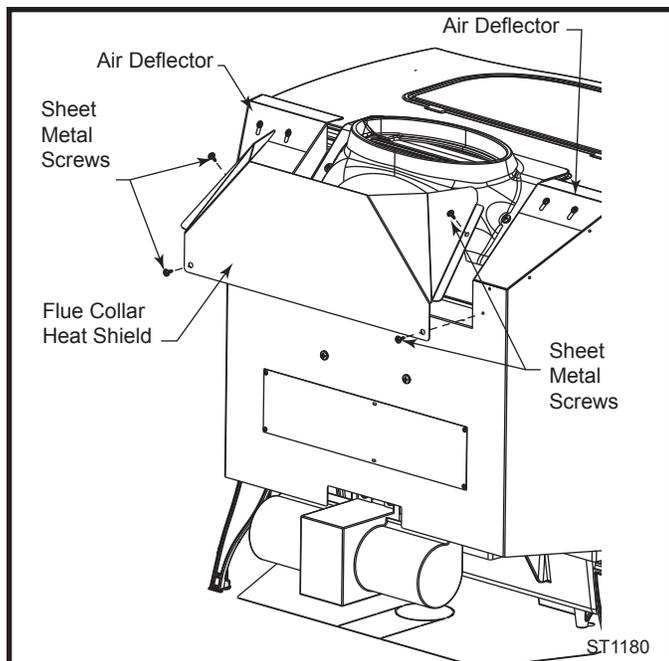

Fig. 23 Install flue collar heat shield.
If you have the optional fan kit, you may decide to adjust the air deflector to blow heat across the top of your stove. (Fig. 23) Loosen the two (2) screws on each side and raise or lower the deflector. After adjustment, tighten the screws.
**WARNING:** The flue collar heat shield must be attached to the Encore stove. Use four #10 sheet metal screws supplied to secure the flue collar heat shield to the rear of the stove. (Fig. 23)